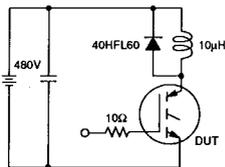

Fig 12a. Clamped Inductive Load Test Circuit
- ② $V_{CC} = 80\% (BV_{CES}), V_{GE} = 20V, L \geq 10\ \mu H, R_G = 10\ \Omega$, (See figure 12a)
- ③ Pulse width $\leq 80\ \mu s$; duty factor $\leq 0.1\%$.
- ④ Pulse width $\leq 5\ \mu s$, single shot
- ⑤ K/W equivalent to °C/W